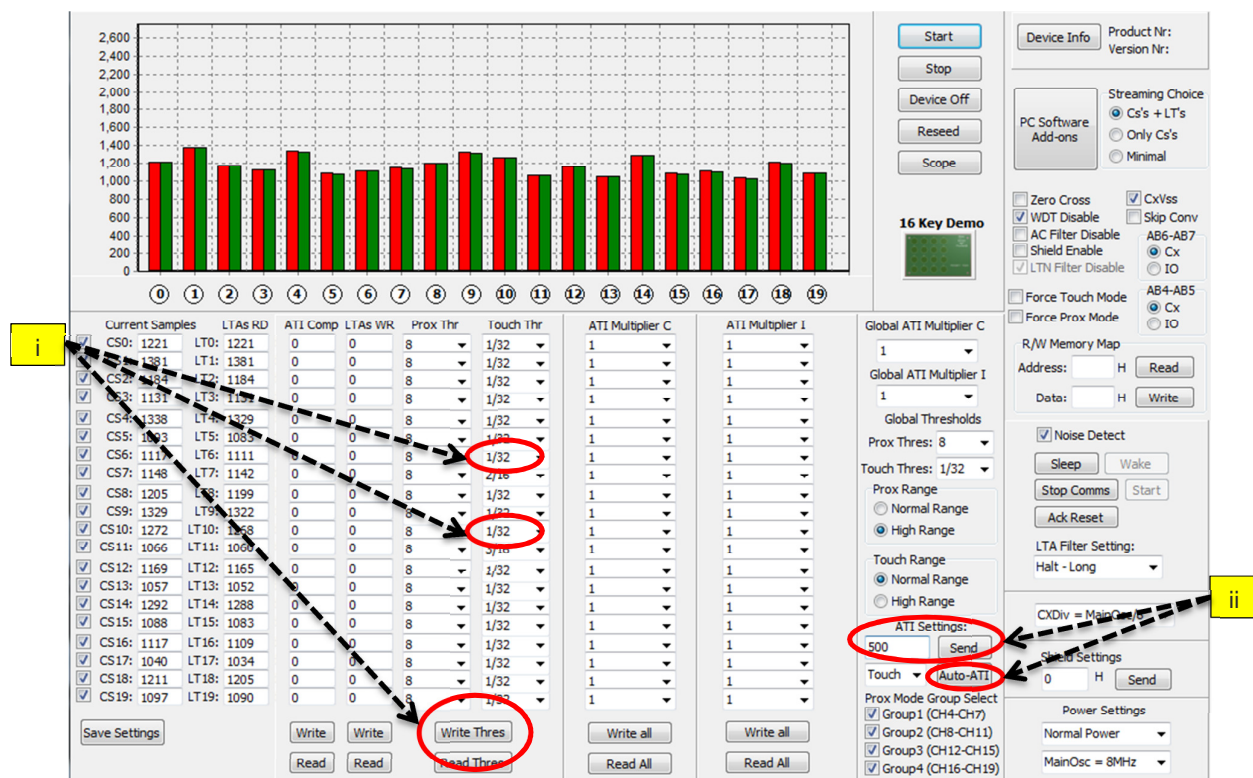
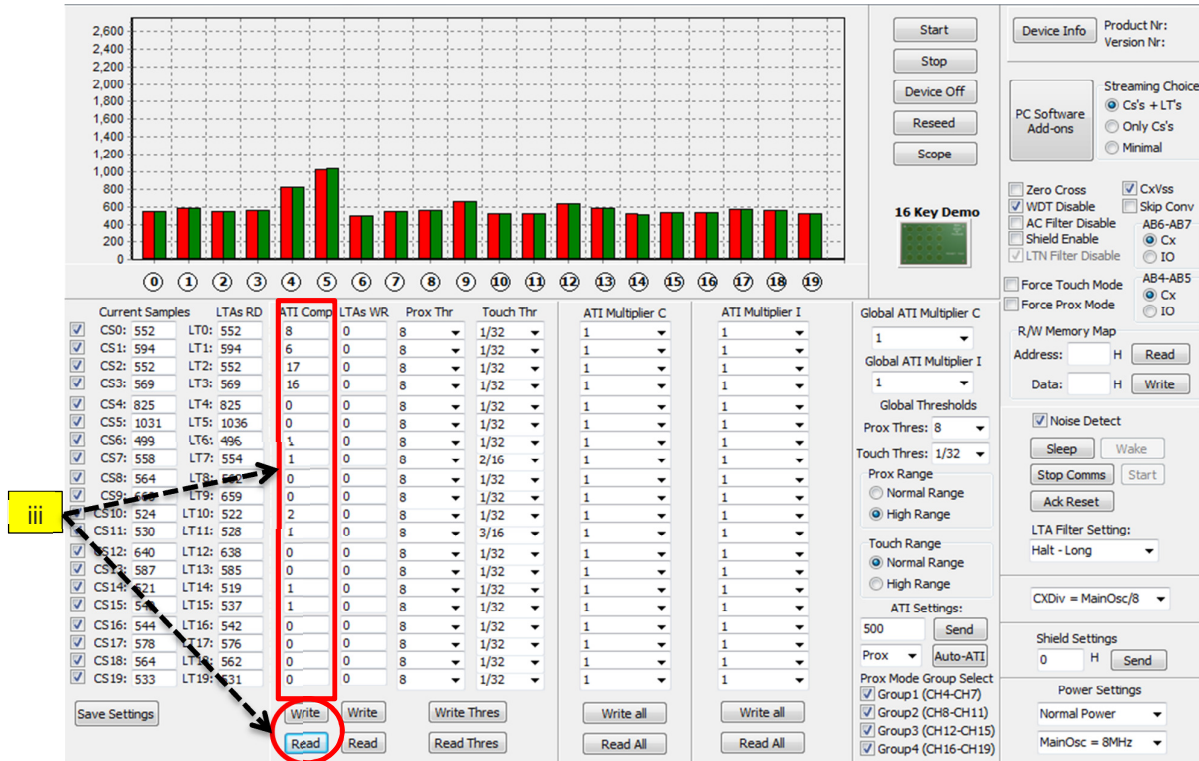

Figure 3.4 Adjusting individual channel thresholds
Figure 3.5 Adjusting channel sensitivity ATI compensation
3.2.1 Example (See Figure 3.4 and Figure 3.5):
- (i) To change the touch threshold on individual channels, click on “Read Thres”. This will display the current settings. Change the threshold setting of the channel in question by selecting the desired value from the drop down box, and click on “Write Thres” as indicated in Figure 3.4.
- (iii) To make one or more channels more sensitive, the ATI compensation parameter can be adjusted as follows (See Figure 3.5). Under “ATI Comp” click on “Read” to display the current compensation values. Enter a new value between 0 and 63 for the channel that is to be adjusted, and click on “Write”. A higher compensation value will yield higher current samples, and thus will make the channel more sensitive.